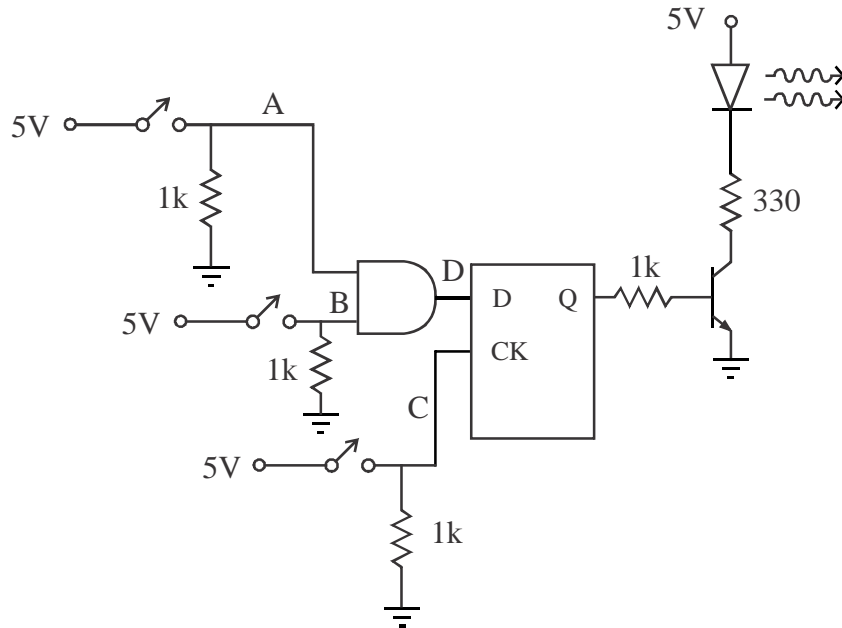

Figure 7.11 Data Latch Circuit Schematic
- (4) Replace the 7474 with the 7475 bistable data latch and rewire the circuit based on the circuit schematic in Figure 7.7. The circuit schematic is shown in Figure 7.11. The only difference from the previous circuit is that the D-latch is not edge triggered. Again, look at and think about Question 2 at the end of the Lab before continuing.